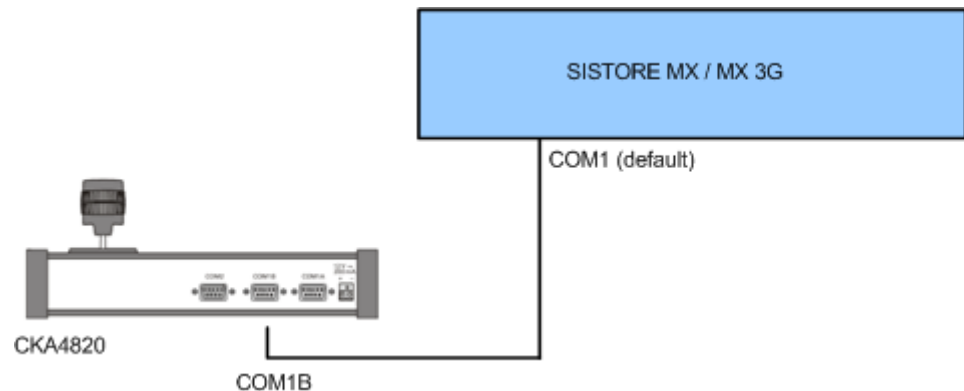

Fig. 7 SISTORE unit – CKA4820 system overview
1. Connect the CKA4820 control panel to the SISTORE (see Fig. 7).